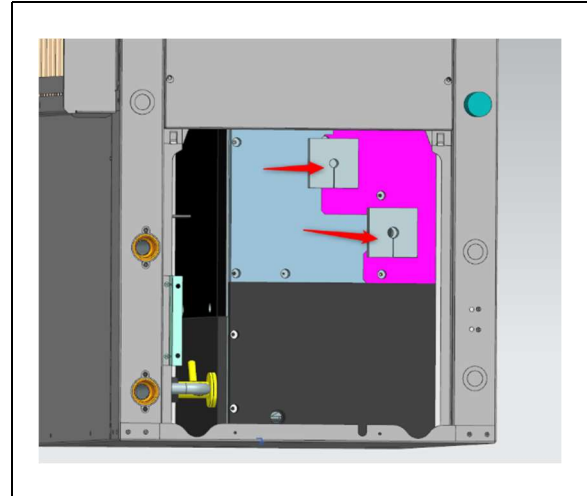

Figure 12. Suction and discharge pads
- 4) Remove (and save to re-install later) insulation pads around suction and discharge pipes. See figure 12.
- e. Re-install suction and discharge pads. See figure 12